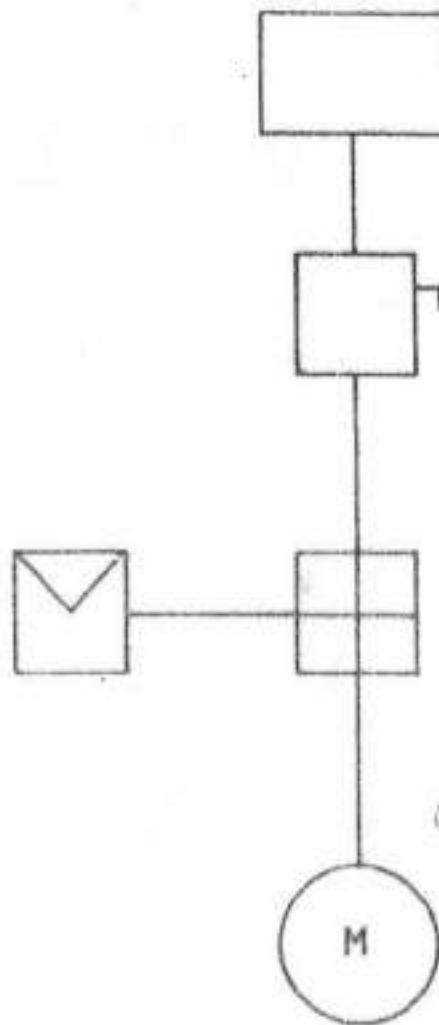

Fig. 5
6. Figure 5 shows the layout of a direct on line starter for a three phase motor. Draw a circuit diagram for control on power circuit for the motor.